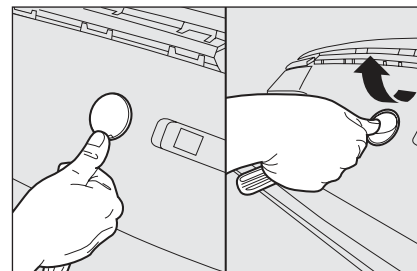

fig. 47
- ❑ put the hand thumb on the cap to prevent damaging it **fig. 47**;
- ❑ remove the cap (without turning it) making a movement perpendicular to the supporting surface **fig. 47**.